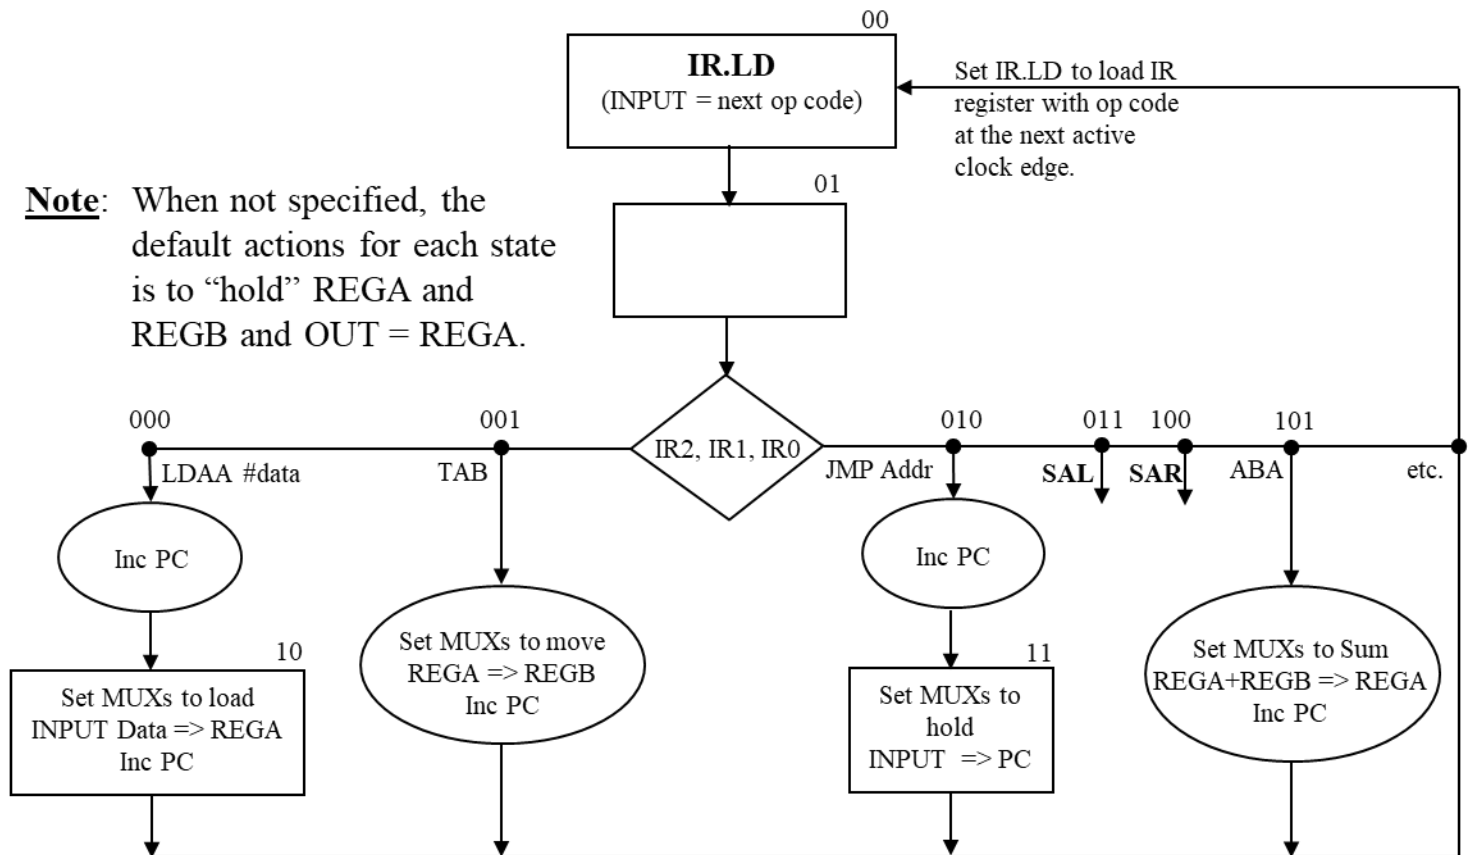

Figure 4. Controller flowchart (not an ASM).
have come from switches (or your DAD). This is accomplished by incrementing the PC register or “Inc PC,” as shown in the Figure 4 flowchart.
- Create an ASM chart using the Figure 4 flowchart as an aid; i.e., put in the actual signals to control the PC, IR, and the MUXs. Complete the ASM diagram, by also including the required elements for the SAR and SAL instructions.